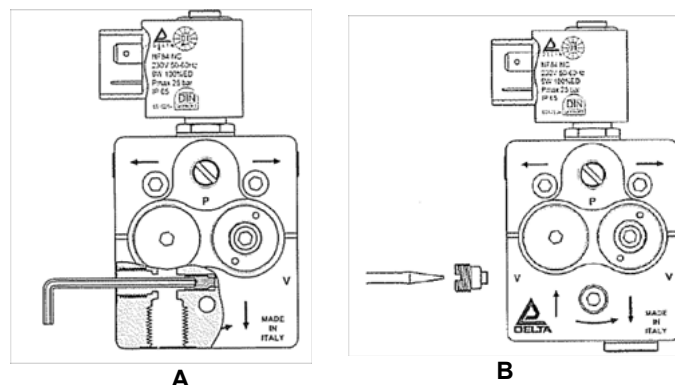

Fig. 8
- 2 using a 2,5 mm Allen wrench, unscrew the by-pass plug from the vacuum gauge port (see Fig. 8-A)
- 4 insert and screw a 1/4" plug into the return port (see Fig. 8-B).